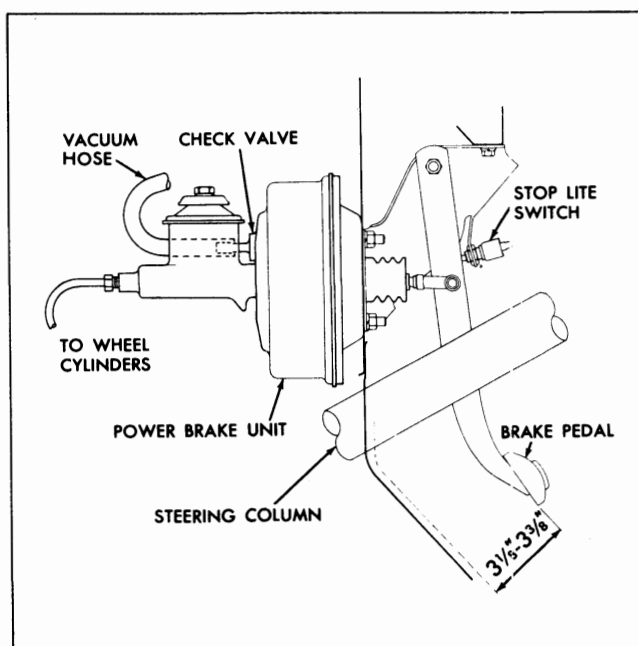

Fig. 5B-5 Simple Schematic of Power Brake System
1. Disconnect vacuum hose at vacuum check valve. Cover hose and pipe openings to exclude dust, dirt, etc. (Fig. 5B-5).